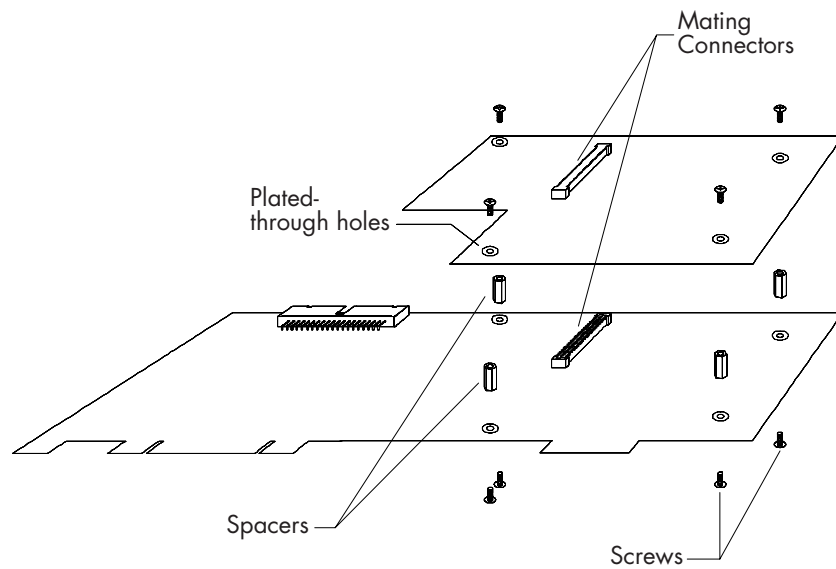
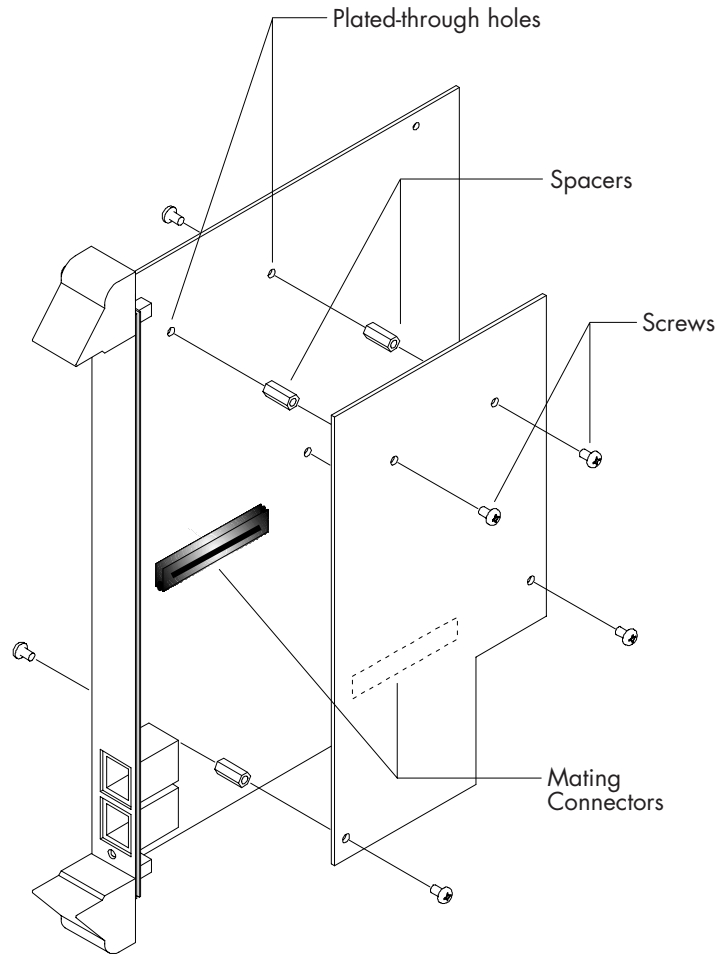

Figure 7. PCI Board: Installing the Daughter Card on the DialFire PTE Adapter
Figure 8. CompactPCI (cPCI) Board: Installing the Daughter Card on the DialFire PTE Adapter
5. Using the screws provided, attach the four spacers to the DialFire adapter, on the side with the connector, as shown in figure 7 (below) and figure 8 on page 35. Be sure to install the spacers on the plated through-holes.
6. Plug the daughter card onto the DialFire adapter (see figure 7 and figure 8). The spacers should line up with the plated through-holes on the daughter card.